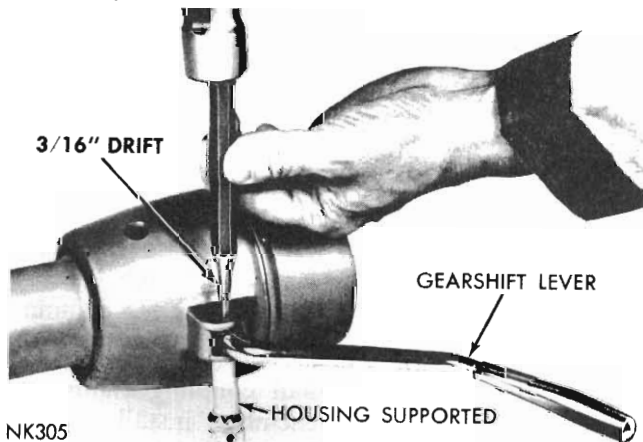

Fig. 12 - Removing or installing gearshift lever
(4) Support gearshift housing on a small socket, drive out roll pin and remove gear shift lever (Fig. 12).
housing (Fig. 12) while driving shift lever roll pin into place.